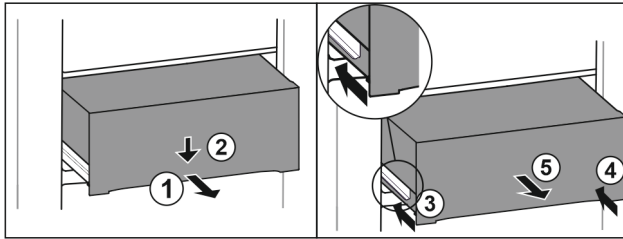

Fig. 131
- ▶ Pull out drawer half-way. Fig. 131 (1)
- ▶ Push the drawer down at the front. Fig. 131 (2)
- ▶ Push the left rail in by about 2 cm. Fig. 131 (3)
- ▶ Push the right rail in by about 2 cm. Fig. 131 (4)
- ▶ Remove drawer to the front. Fig. 131 (5)